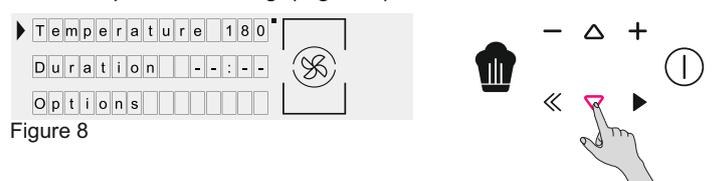

Figure 8
- Press DOWN to change the cooking duration. It is done by pressing PLUS and MINUS Buttons while arrow on the display at DURATION Tab. Press OK to begin the cooking or BACK to return to the temperature setting. (Figure 8)